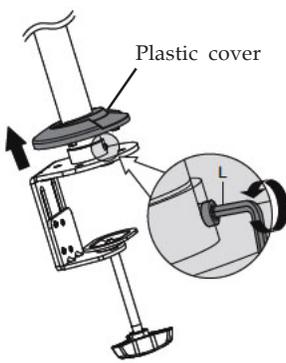

Figure 3
1. Lift up the plastic cover and use a 3mm Allen Key (L) to remove the Hex Nut from the C-Clamp, see Figure 3.